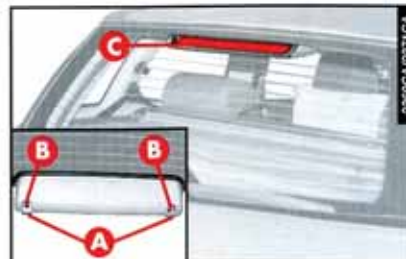

fig. 23
- Raise the tailgate, release the protections (**A-fig. 23**), then slacken the screws (**B-fig. 23**) fastening the light unit (**C-fig. 23**) and remove it disconnecting the electric wiring.
- Refit the bulb holder and light unit making sure the screws are fastened correctly (**B-fig. 23**).